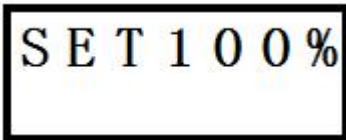

Figure30
6.1 5.1 Start and browse the menu and then select "Set 100%" menu item, as shown in Figure 30;
6.7 Enter "Confirm" once to clear the message and return to menu, the screen will display as shown in Figure 30;